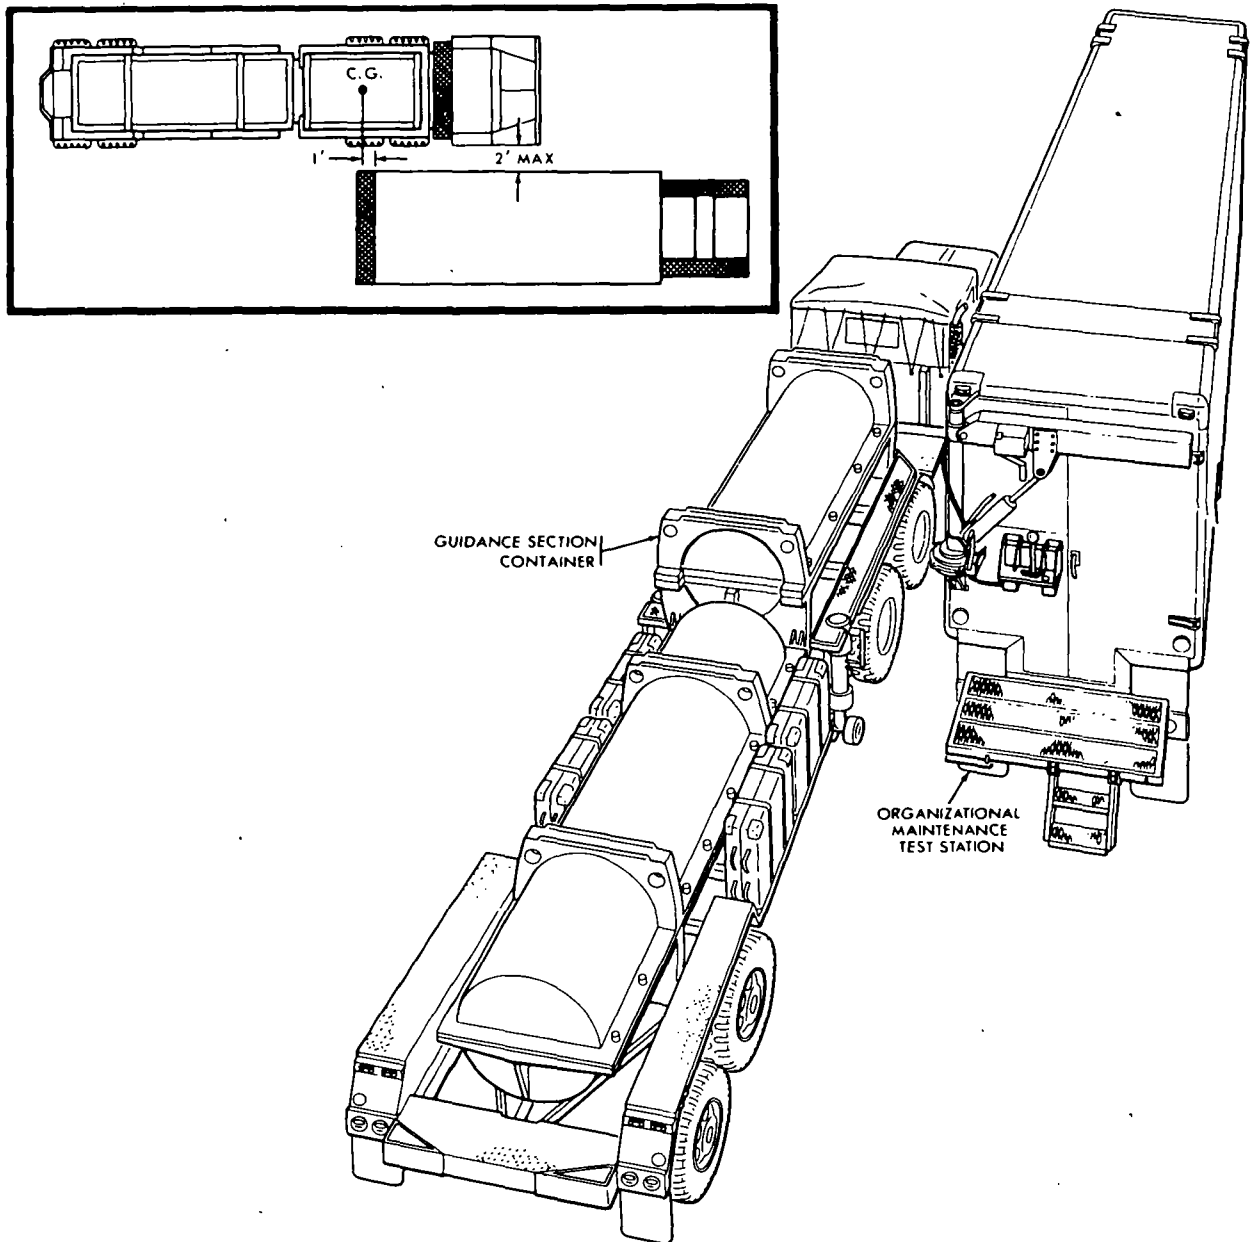

Figure 29. Emplacement of the transporter at OMTS for removal of guidance section.
1. Position the transport semitrailer for removal of the guidance section (fig. 29).